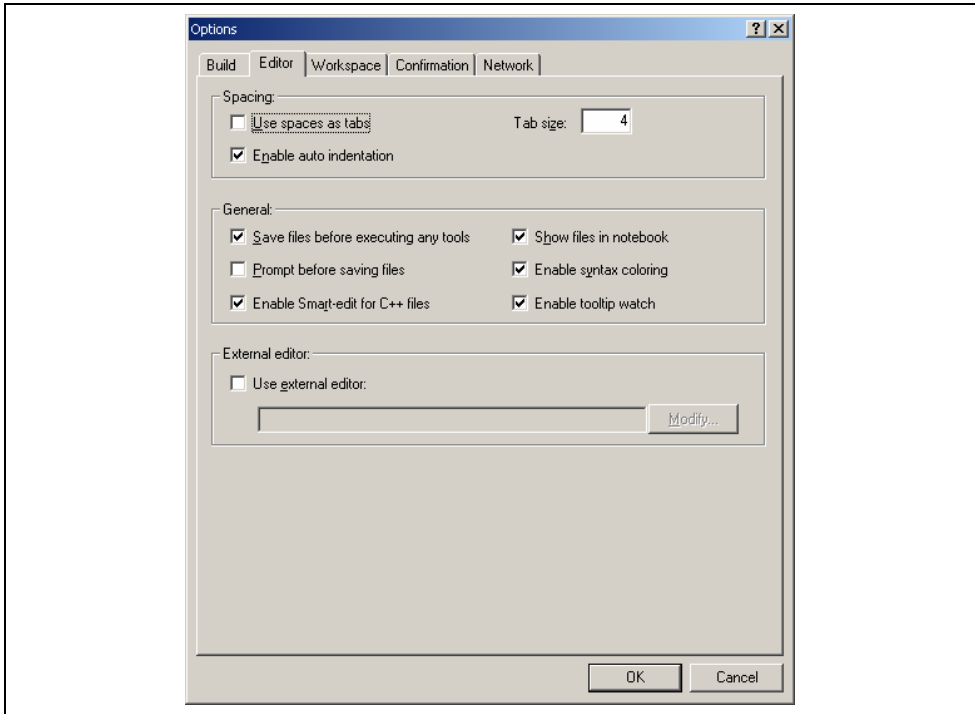

Figure 14.1: Options Dialog Editor Tab
3. The dialog in figure 14.1 is displayed. The “Enable Smart-edit for C++ files” should be checked.